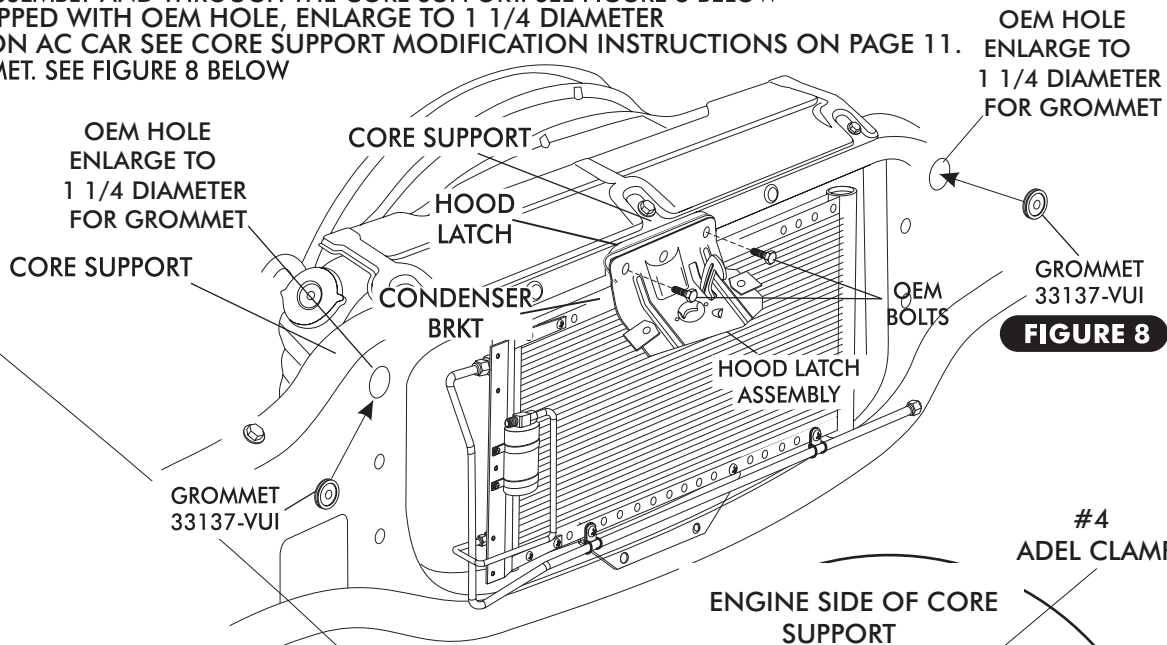

FIGURE 8
- ☐ USING OEM BOLTS RE-INSTALL HOOD LATCH ASSEMBLY, INSTALL OEM BOLTS THROUGH THE CONDENSER BRACKET, HOOD LATCH ASSEMBLY AND THROUGH THE CORE SUPPORT. SEE FIGURE 8 BELOW
- ☐ INSTALL GROMMET. SEE FIGURE 8 BELOW